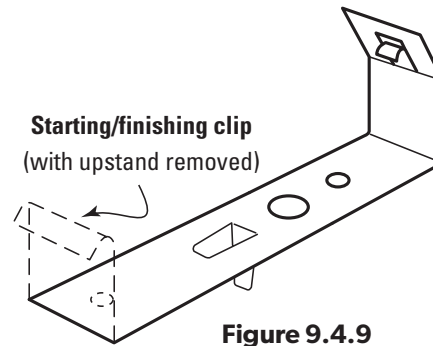

Figure 9.4.9
Two types of clips are used in the concealed fastening of LONGLINE 305. A starting/finishing clip (Figure 9.4.9) used to fasten the first and last sheets in a roof area and a top fastener clip.
- 4 Where SHEERLINE gutter is to be fitted as a longitudinal fascia the turned down tab under the starting/finishing clip is used to position the overhang of the clips. On timber purlins a nail is driven through the hole in the tab into the purlins. (Figure 9.4.9)